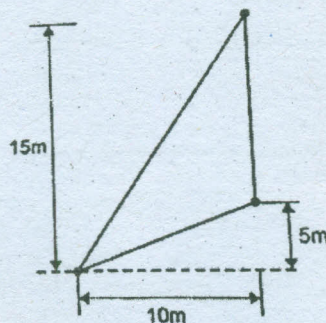

Fig. 14(a)
14. (a) For the triangular element as shown in the Fig. 14(a) determine the strain-displacement matrix  $[B]$  and constitutive matrix  $[D]$ . Assume plane stress conditions. Take  $\mu = 0.3$ ,  $E = 30 \times 10^6 \text{ N/m}^2$  and thickness  $t = 0.1 \text{ m}$ . Also calculate the element stiffness matrix for the triangular element.